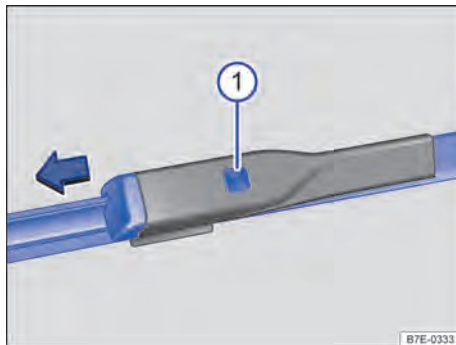

Fig. 170 On the windscreen: changing the wiper blades
- ① Release button.
3. Press and hold the release button and simultaneously pull off the wiper blade in the direction of the arrow → Fig. 170 ①.